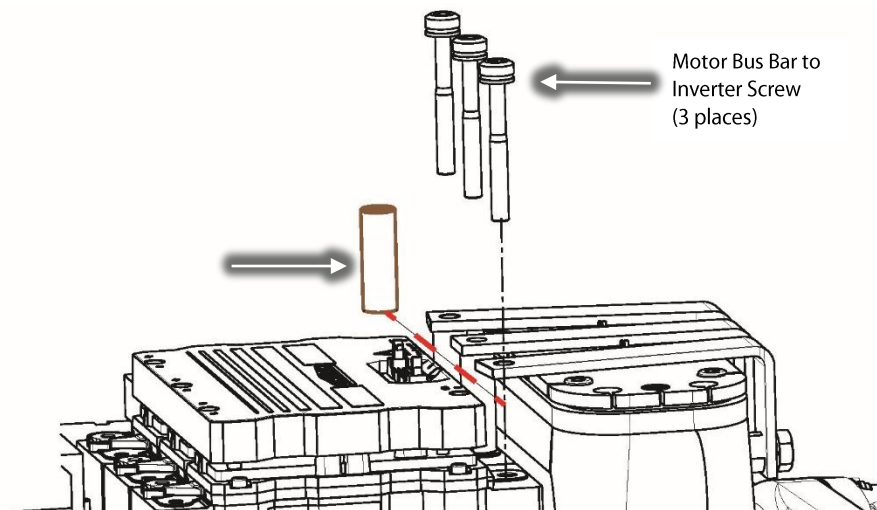

Figure 15 – Copper Tube Removal
25. Remove the Motor Bus Bar screws from the Inverter. Refer to Figure 15 (Copper Tube Removal).